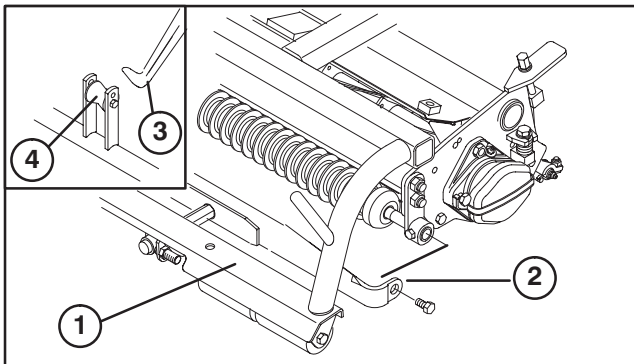

Figure 1
4. Disconnect pull frame from carrier frame (Fig. 1).
5. Unhook cutting unit lift rollers from lift arms and slide cutting units out from under carrier frames (Fig. 1).
6. Remove fasteners securing pull frames to cutting units (Fig. 1).